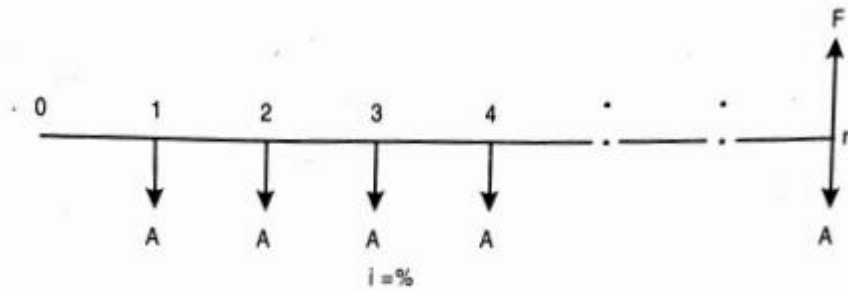

Fig. 4.7 : Cash flow diagram of equal-payment series compound amount
In this type of investment mode, the objective is to find the equivalent amount (A) that should be deposited at the end of every interest period for n interest periods to realize a future sum (F) at the end of the n th interest period at an interest rate of i . The corresponding cash flow diagram is shown in Fig. 4.7.
In Fig. 4.7,